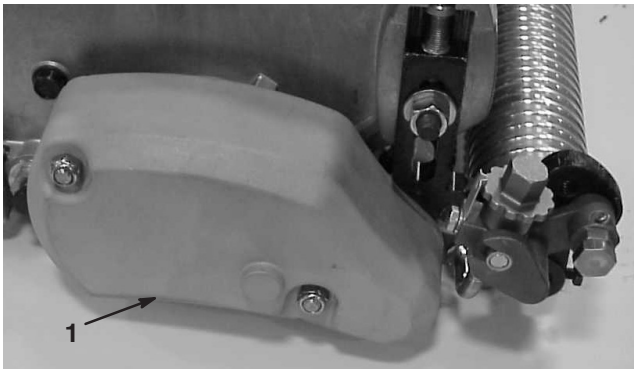

Figure 33
1. On right end of cutting unit, remove belt cover from groomer housing (Fig. 33).